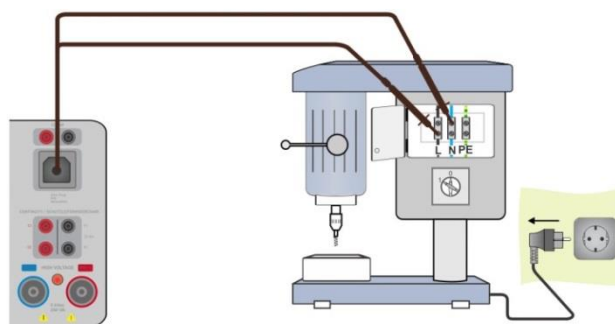

Figure 6.148: Discharging time measurement
- Connect Residual voltage cable to the instrument and to the device under test (DUT), see **Figure 6.148**.